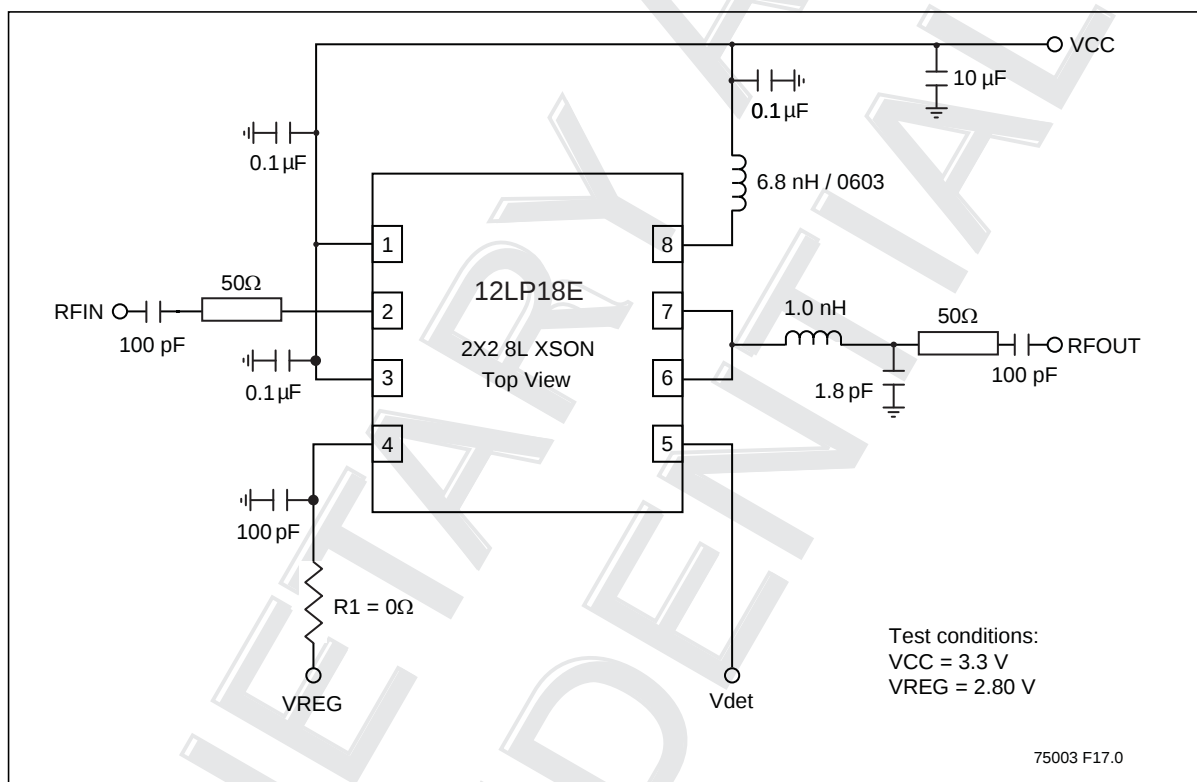

Figure 8: Typical Schematic for High-Linearity 802.11b/g/n/ac Applications
1. See Figure 8
2. See Figure 8